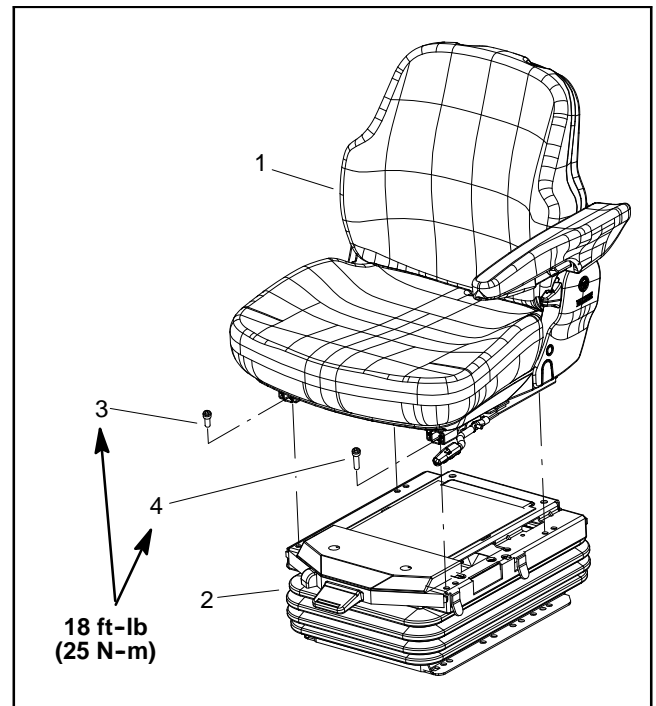

Figure 13
8. Remove four (4) torx head screws that secure seat to seat suspension (Fig. 13). Note that the screw near the seat adjustment handle is longer than the other three (3) screws.
2. Secure seat to seat suspension with four (4) torx head screws (Fig. 13). Make sure that longer screw is positioned near the seat adjustment handle. Torque screws **18 ft-lb (25 N-m)**.